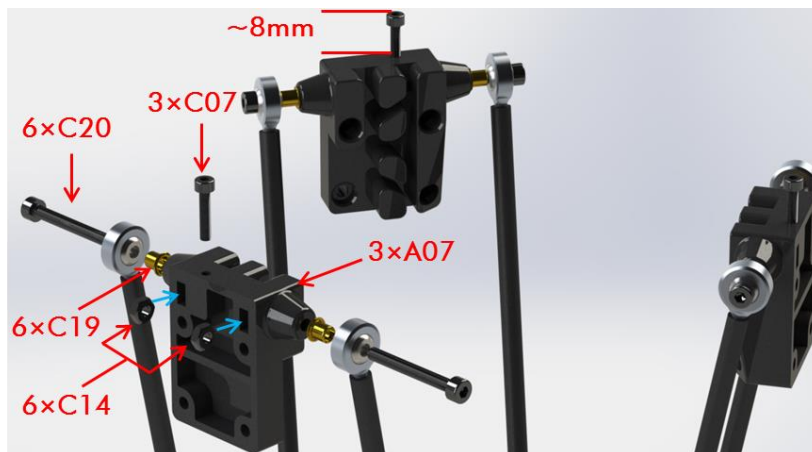

Fig. 10
Step 4. Fig. 10 shows the assembly of 3 belt tensioners which connected to the CFTs. Please note the suggested height of the top screws (C07) is 8mm.